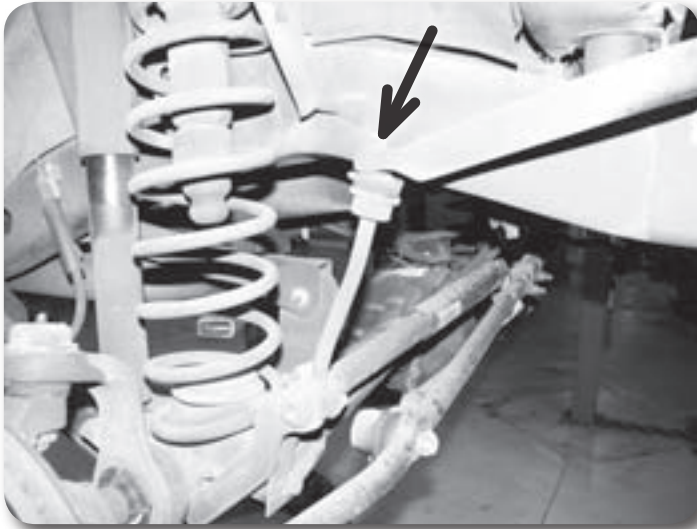

Figure 3
7. Remove the upper mounting nut from the sway bar links (Figure 3). Disconnect the links from the sway bar with a pickle fork to release the tapered seat.